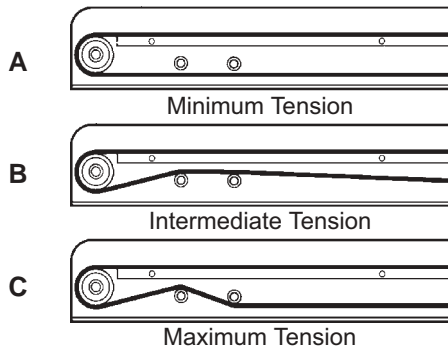
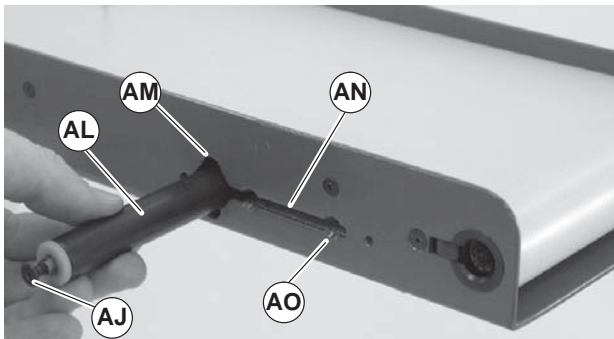

Figure 21
Figure 22
Belt tension can be applied in three different settings (Figure 21, item A, B or C) for tension adjustment.
1. Locate tension versus conveyor belt as required for tension setting (Figure 21, item A, B, or C). Insert tension pin assembly (Figure 22, item AL) into conveyor frame through hole (AM).